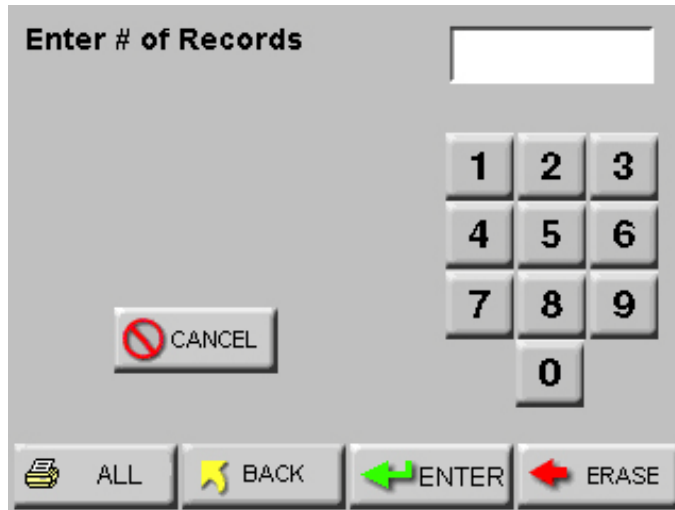

Figure 4-63 Print Range Screen
- Press the RANGE button. The following screen will display as shown in Figure 4-63.